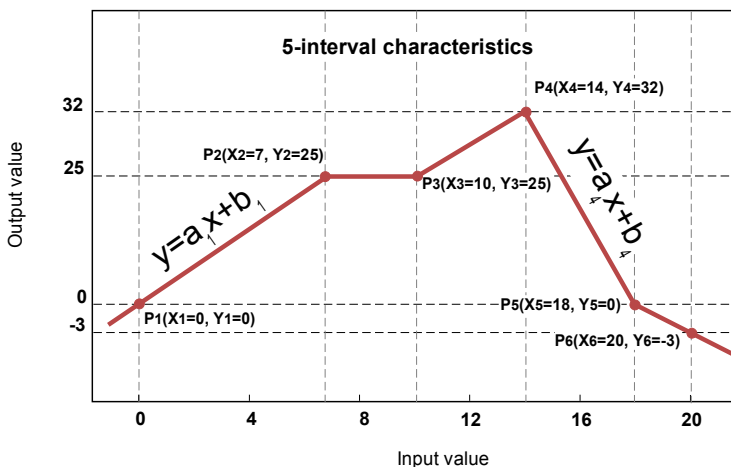

Fig. 7.32. Example of user characteristic
**d) user characteristics** - is defined as set of X-Y points. Number of the points is variable and may be set from 2 to 20 points which make linear segments (see Fig. 7.32). For 2 points the user characteristic behaves like a linear process (see subsection **b**). For more than 2 defined points the user characteristic is a composite of the line characteristics therefore for input value '**x**' the user obtain an output value '**y**' which is described by the relationship:
, where '**a**' and '**b**' are coefficients of a segment contained between two points (see Fig. 7.32), and **n = 1, 2 ..** is the number of the segment.